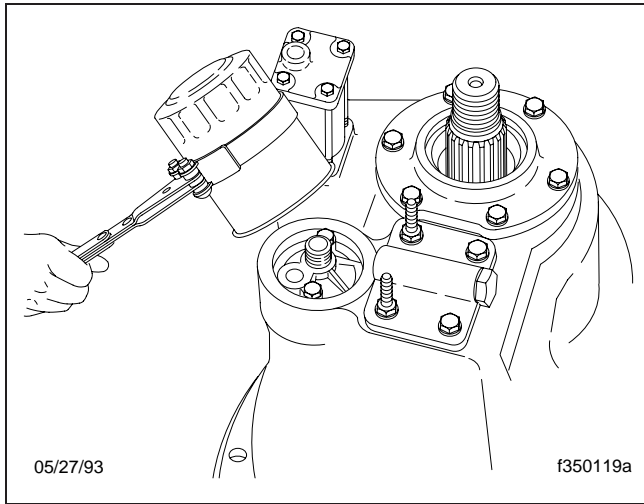

Fig. 5, Axle Oil Filter Removal
3. If so equipped, replace the axle oil filter. Remove the oil filter, using a suitable filter strap wrench. See **Fig. 5**. Discard the filter.